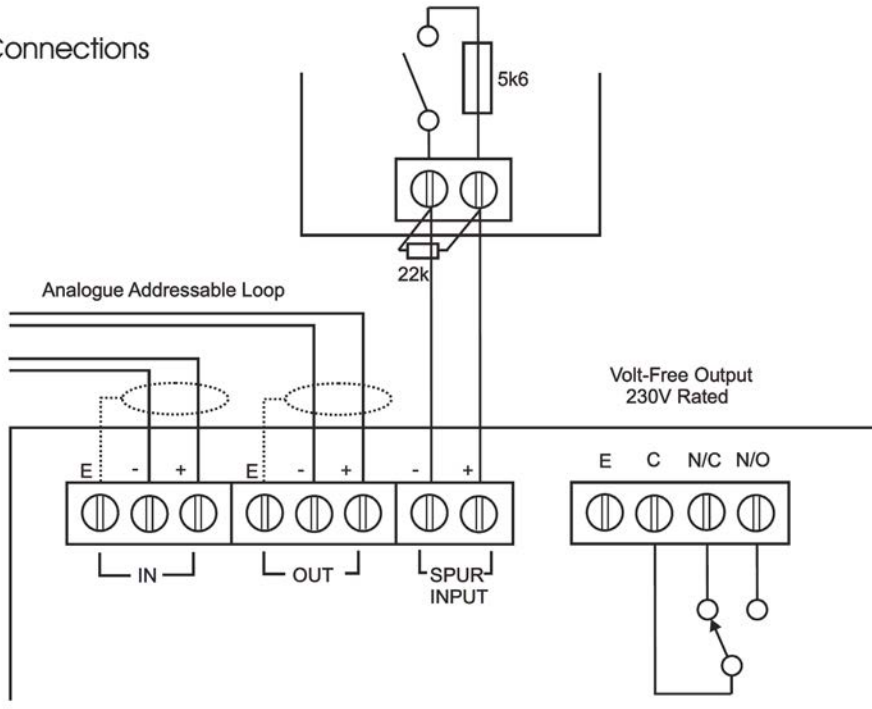

Figure 49. 1 Way Input Output Unit CMIO353
4. Connect the unit according the diagram in Figure 49.